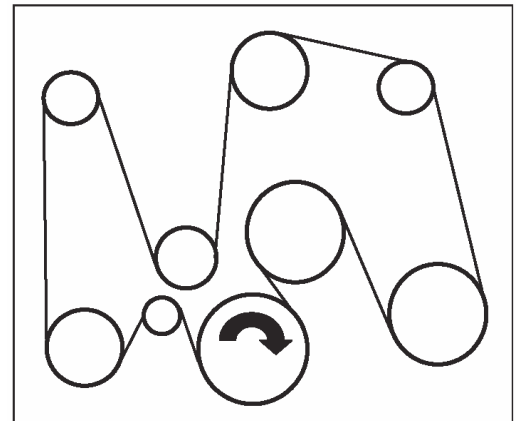

Figure 5
b. To install the new drive belt supplied in the vacuum kit, route the new belt as shown in figure 5. Create slack in the belt by using a ½-inch socket wrench on the tensioner pulley and slide belt into place.